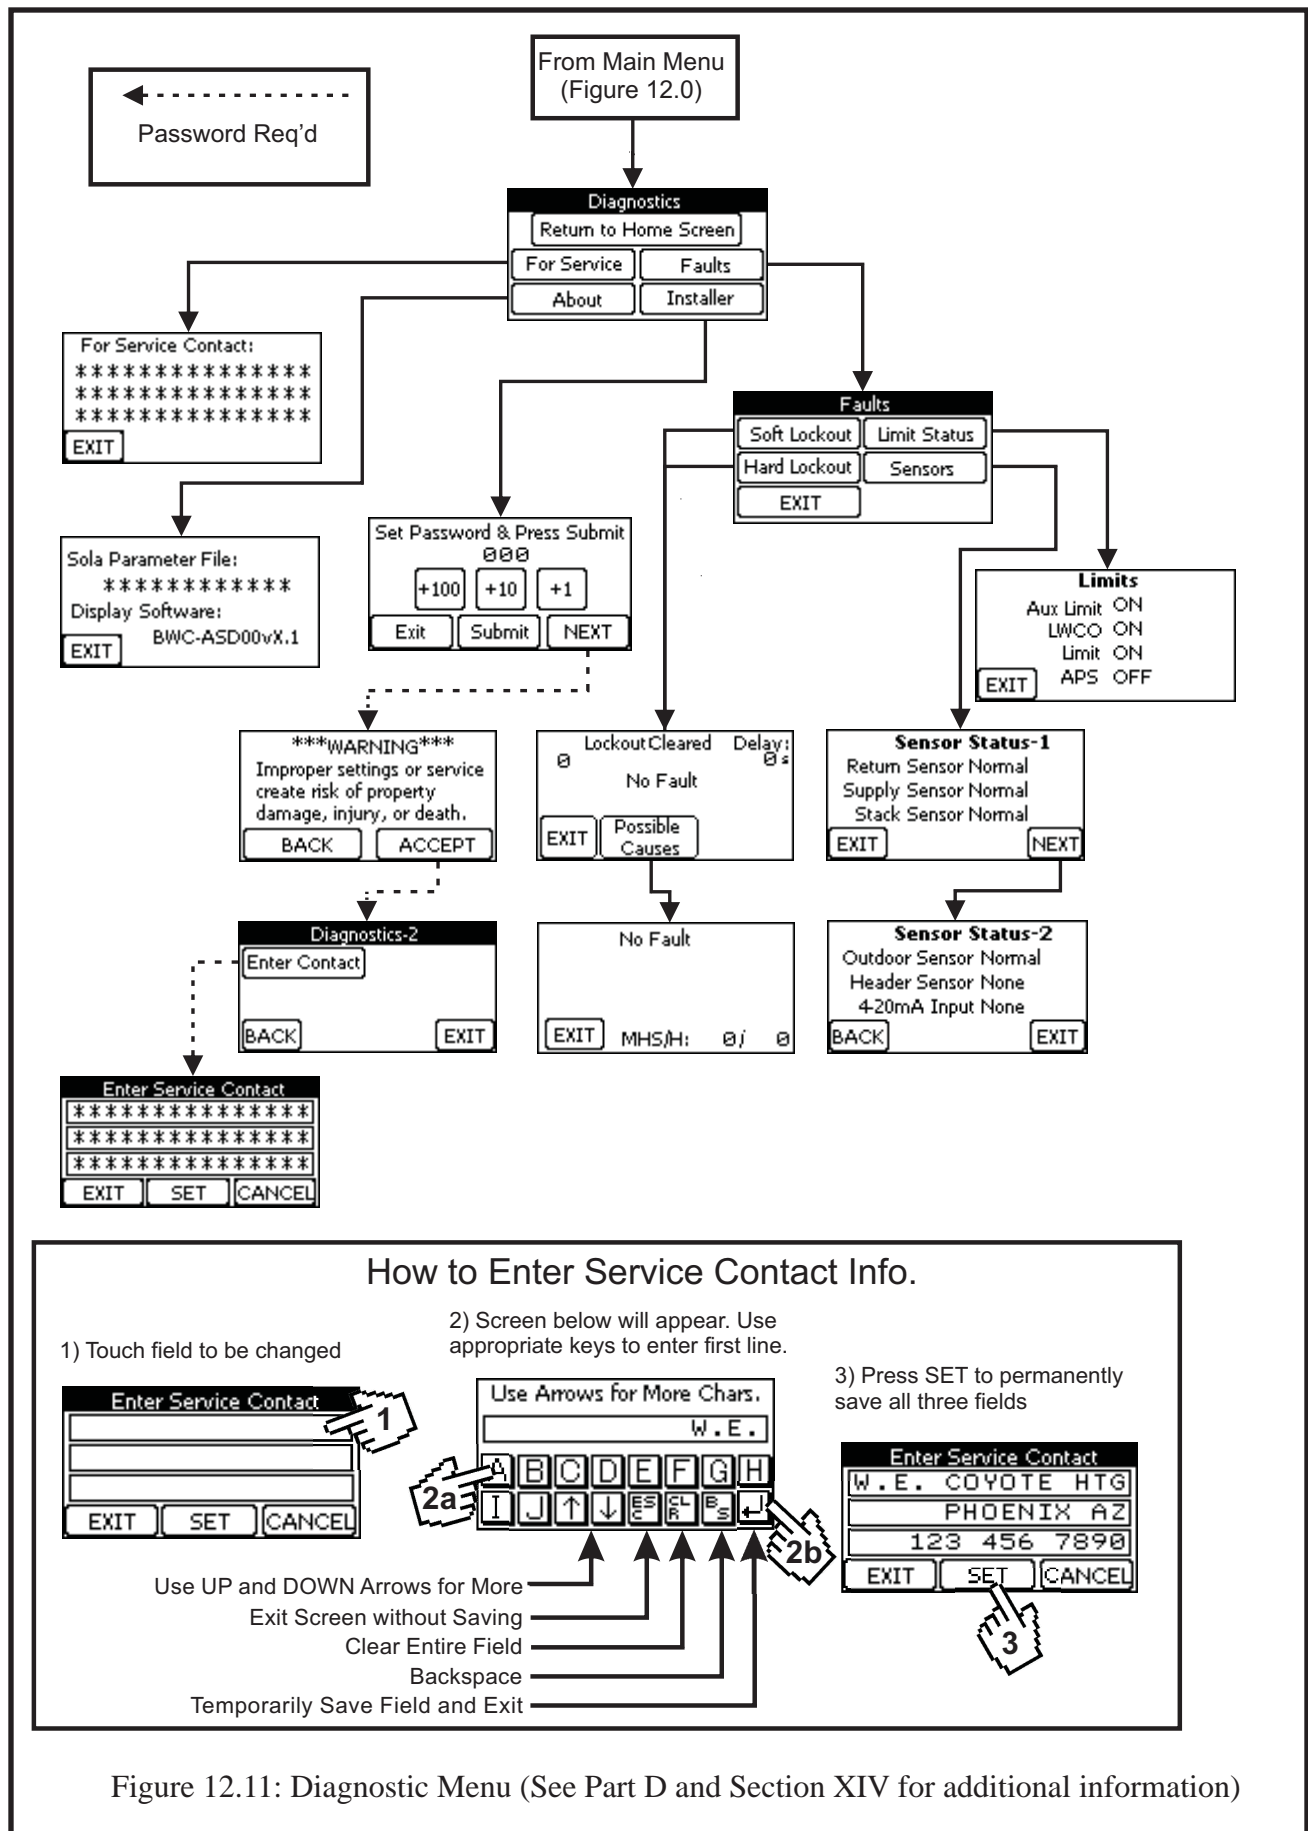

Figure 12.11: Diagnostic Menu (See Part D and Section XIV for additional information)
- 4) Touch the top blank field to enter the first line. When you do this, the keyboard shown in Figure 12.11 will appear. Use the up and down arrows to access additional characters. After entering the first line, press the return key to temporarily save the line.
The complete Diagnostics Menu is shown in Figure 12.11. The screens on this menu provide the following information: